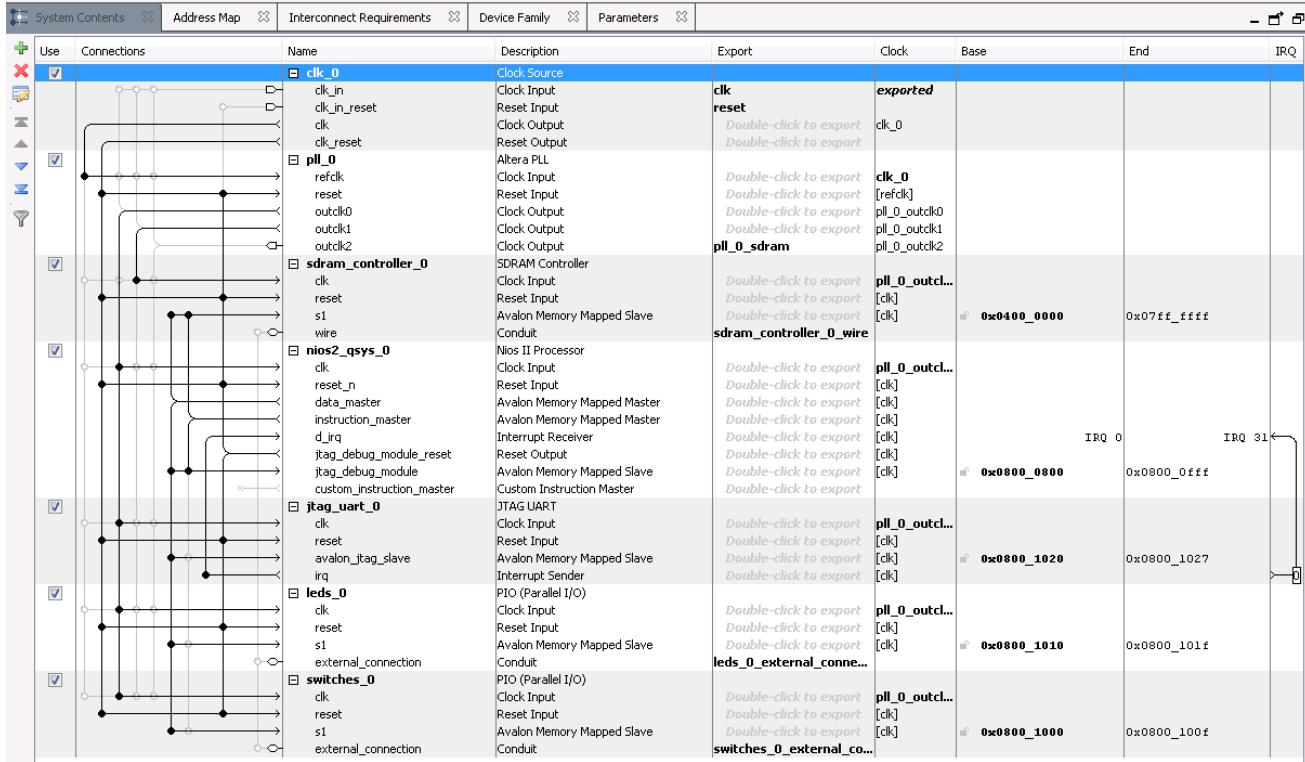

Figure 8-4. Adding LEDs and Switches to the System
13. Connect the system as shown in Figure 8-4 below: